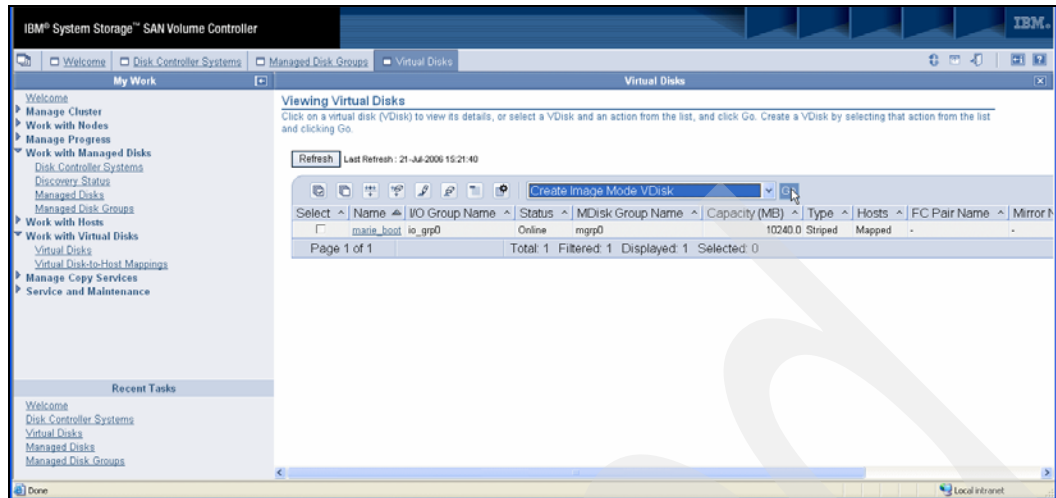

Figure 7-11 Create Image Mode VDisk
3. From the drop-down menu, select **Create Image Mode VDisk**. Figure 7-11 shows selecting this option.